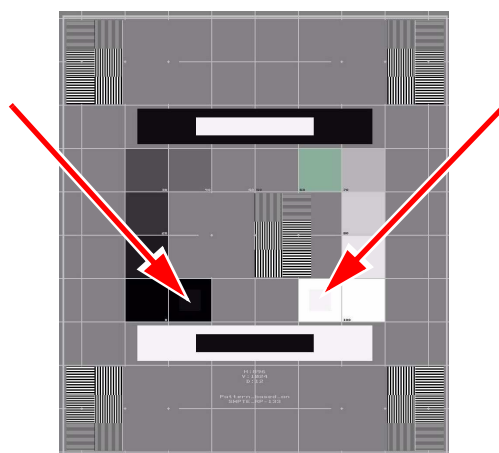

Figure 9 Location of 5 % and 95 % squares
6. The gray scale is shown as a series of squares in the center of the SMPTE image, ranging from black (0%) to white (100%) in a rectangle. The 0% and 100% squares each contain smaller squares within them that represent a signal level of 5% and 95% respectively (see Figure 9). You should be able to differentiate the inner square from the corresponding outer square. The 5% square is normally quite difficult to differentiate. If the viewing conditions are considered to be inferior, perform this test again with dimmed room light.